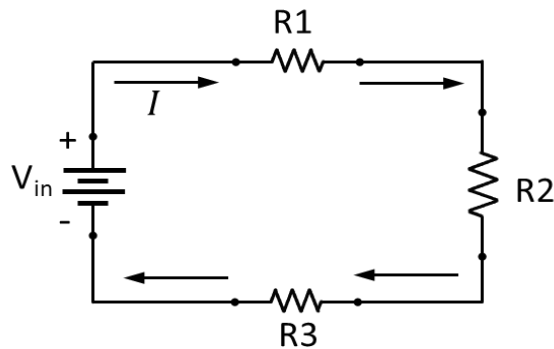

Figure 5
5. Using the DC circuit trainer, connect the circuit Shown in Figure 5, and take $V_T = 10V$, and $R_1 = 1K\Omega$, $R_2 = 470\Omega$ and $R_3 = 5K\Omega$.